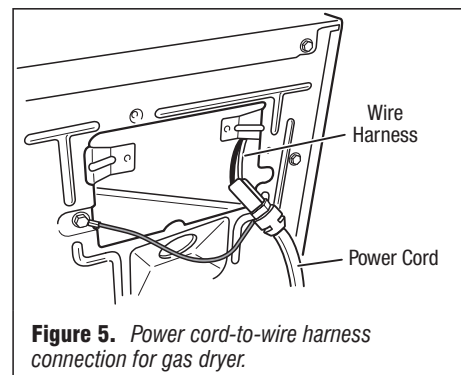
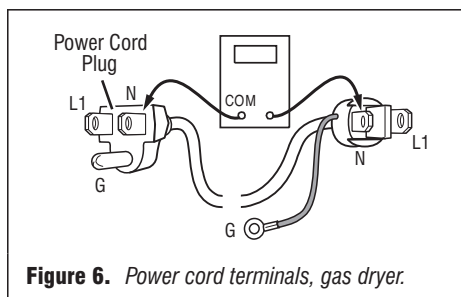

Figure 5. Power cord-to-wire harness connection for gas dryer.
Figure 6. Power cord terminals, gas dryer.
3. Check that the power cord is firmly connected to the dryer's wire harness. See figure 5.
5. With an ohmmeter, check for continuity between the neutral (N) terminal of the plug and P8-3 (white wire) on the machine control board. The left-hand side of figure 6 shows the position of the neutral terminal (N) on the power cord plug. Also see figure 18, page 10.
- If there is no continuity, disconnect the white wire of the harness from the power cord at the location illustrated in figure 5, page 4. Test the continuity of the power cord neutral wire as illustrated in figure 6. If an open circuit is found, replace the power cord. Otherwise, go to step 6.
- If there is no continuity, check the continuity of the power cord in a similar way to that illustrated in figure 6, but for power cord's L1 wire.